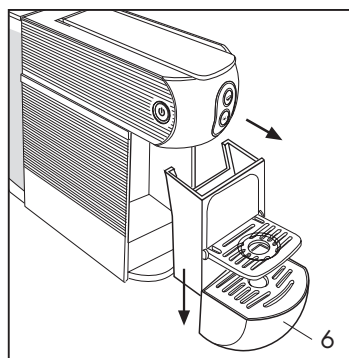

Fig. 12
To perform this operation, take out the drip tray (6) **(Fig. 12)** and separate it from the capsule container by pulling it down, paying attention to the presence of any liquid.